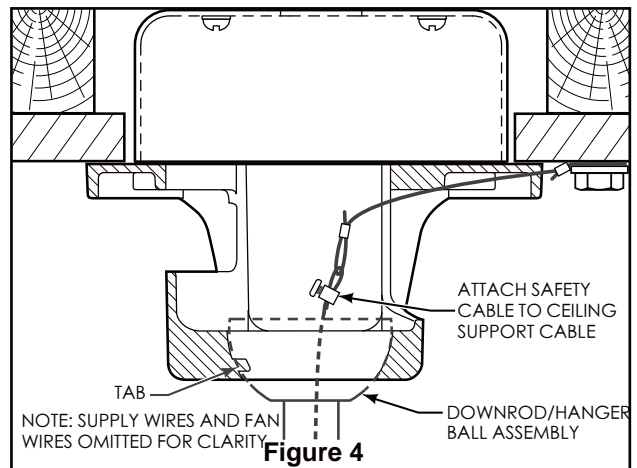

Figure 4
4. Slide downrod into the downrod support on top of the motor. Install the clevis pin by aligning the holes in the downrod support with holes in the downrod. Secure clevis pin with hairpin clip. Tighten the two set screws with nuts in the downrod support. (Figure 4)
4. Carefully lift the fan and seat the downrod/hanger ball assembly on the hanger bracket that was just attached to the ceiling joist. Be sure the groove in the ball is lined up with tab on the hanger bracket. (Figure 4)
5. Attach the safety cable to ceiling support cable. Slide cable clamp onto safety cable (from fan). Place the end of cable through the loop of ceiling support cable. Pull as much cable through loop as possible. Feed end of cable into clamp hole and firmly tighten screw (Figure 4). Cut off excess safety cable.
- 4. Connect the 2 pin connectors from the LED assembly to the 2 pin connectors from motor assembly. (Figure 4)